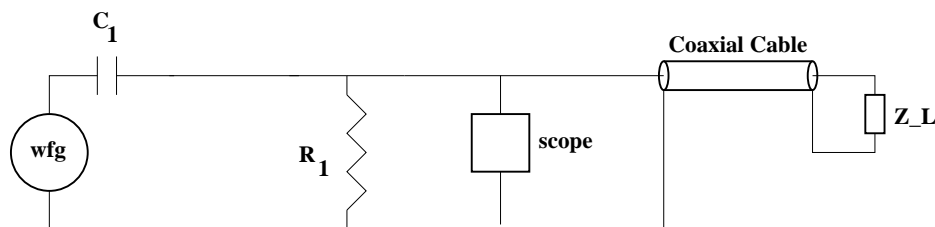

Figure 4: Circuit used to study propagation of waves along a coaxial cable.
6. Attach the the 50 meter long cable to the wfg output/scope input and set  $Z_L = \infty$ . See figure 4. Observe and sketch the scope trace. You should be able to identify the various sharp spikes that you see. Measure the wave speed  $v$  in the cable. How does your measured value for  $v_{exp}$  compare with the theoretical value  $v_{th}$  given by 10? Also measure the attenuation constant  $\alpha$ .